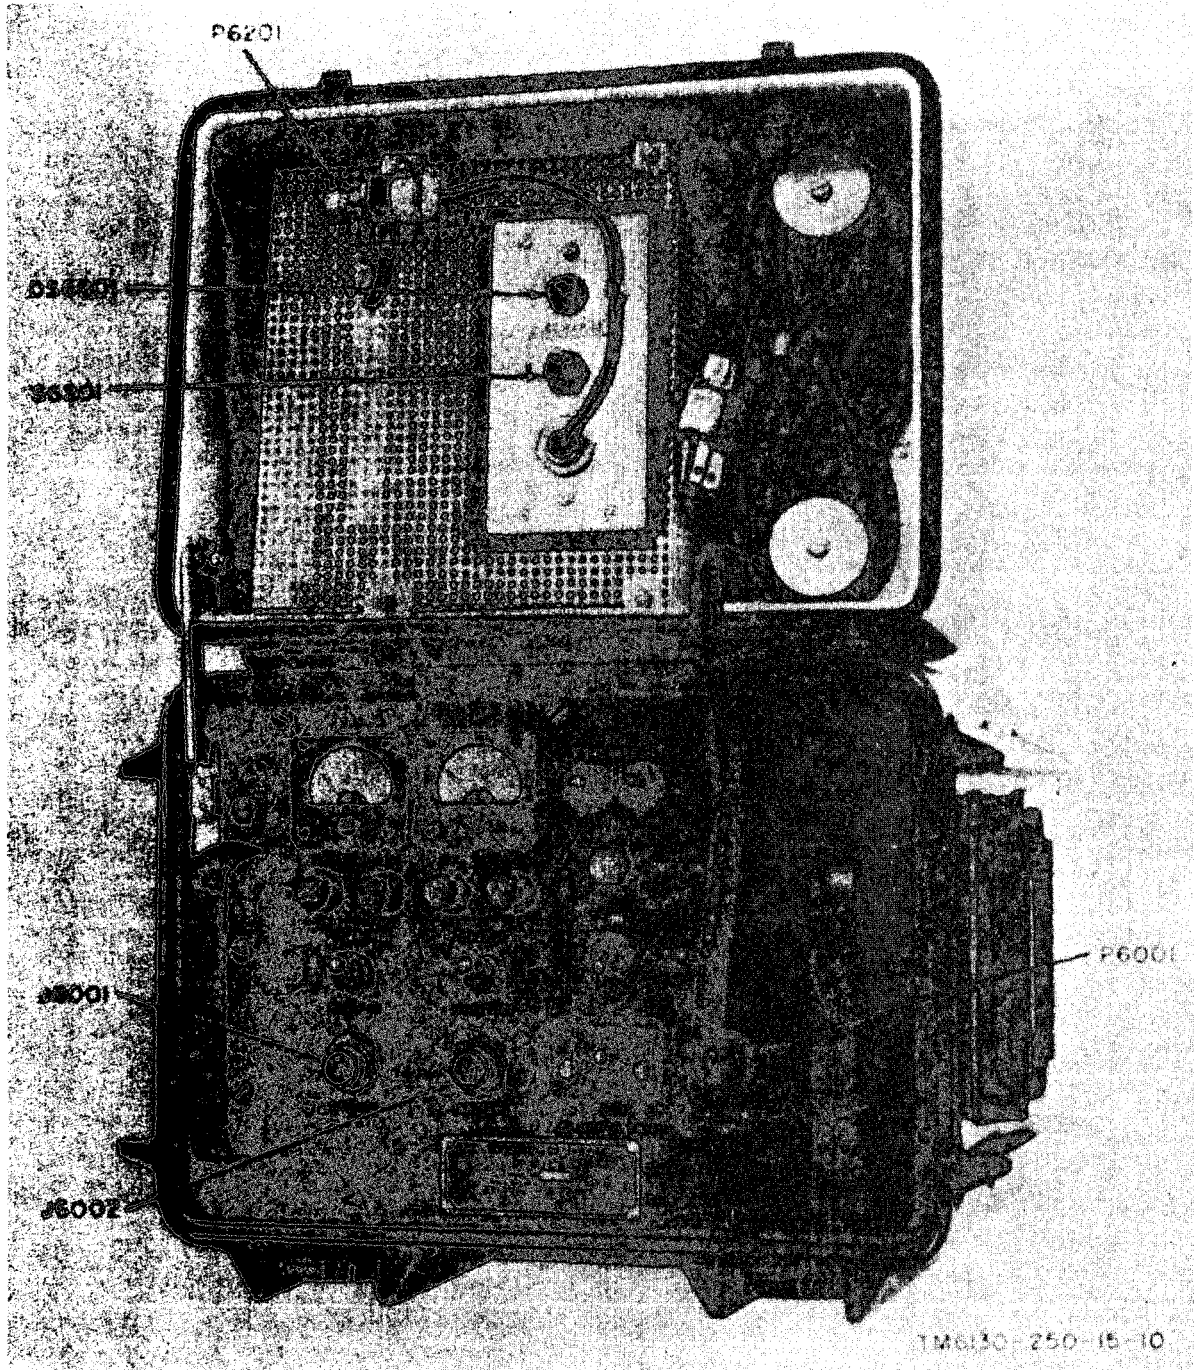

Figure 5-1. PP-4127/U component locations, front panels.
f. *Component Locations.* Figures 5-1 through 5-5 and 9-3 show the component locations of the PP-4127/U.